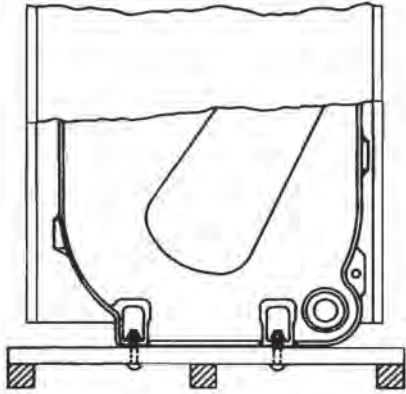

Figure 2:
1. Boiler is secured to base with 4 bolts, 2 on left side and 2 on right side, see Figure 2. Remove all bolts.